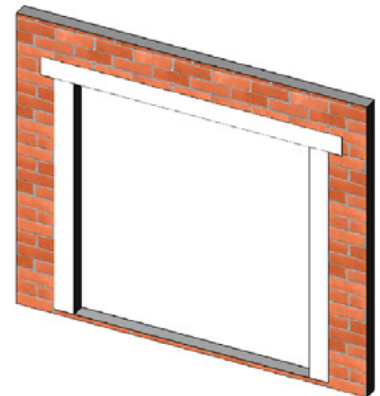

Figure 14:
3. Finally, at the head, embed the flashing into the sealant on the mounting flange and fasten into place. The flashing paper should be cut sufficiently long enough to extend past the flashing paper at each jamb by at least 3 inches (Figure 14).